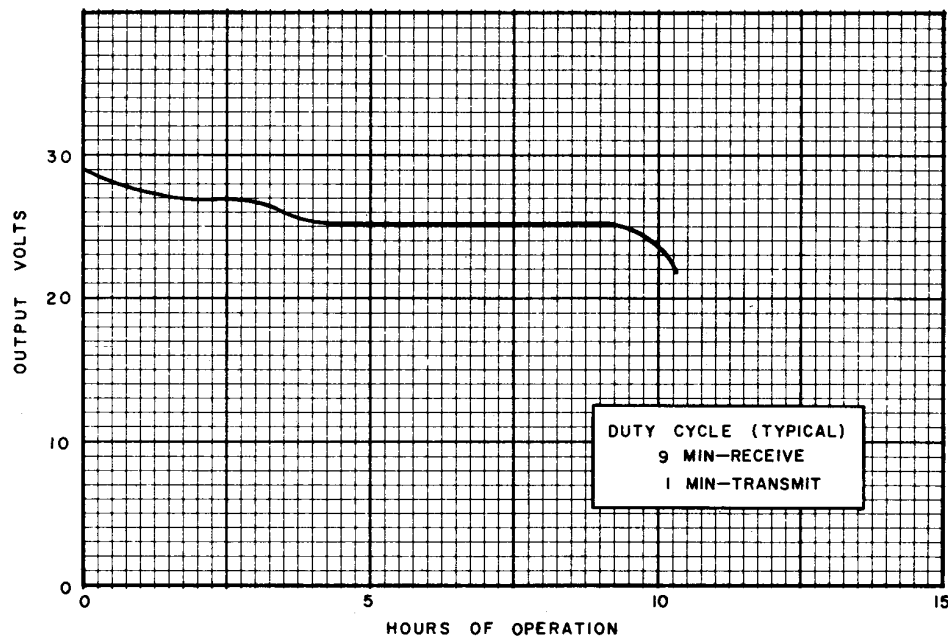

Figure 4-7. Storage Battery BB-451/U, Typical Rate of Discharge
(2) STORAGE BATTERY BB-451/U TEST DATA. -Any trouble isolation considerations for Storage Battery BB-451/U are concerned with its ability to provide the required d-c voltage for operation of the RT-695/PRC-41.. The normal procedure for checking the level of charge of a battery is by measuring the terminal voltage developed across a very high load resistance. This procedure provides very little indication when applied to Storage Battery BB-451/U because of the characteristics of charge and discharge. Refer to figure 4-7. Instructions for battery use and a log for recording battery charges are printed on the inside of the battery cover.
(3) POWER SUPPLY PP-3700/PRC-41 TEST DATA.- Trouble isolation considerations for Power